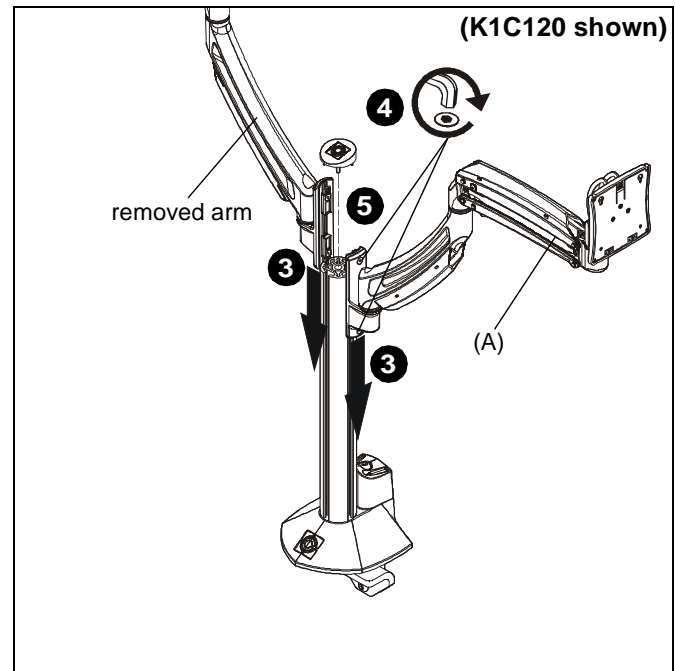

Figure 2
3. Slide KRA221 arm and removed arm onto K1C column on left and right sides of the column. (See Figure 2)
4. Tighten screws to secure each arm to column at desired mounting height. (See Figure 2)
5. Replace cap on top of column. (See Figure 2)